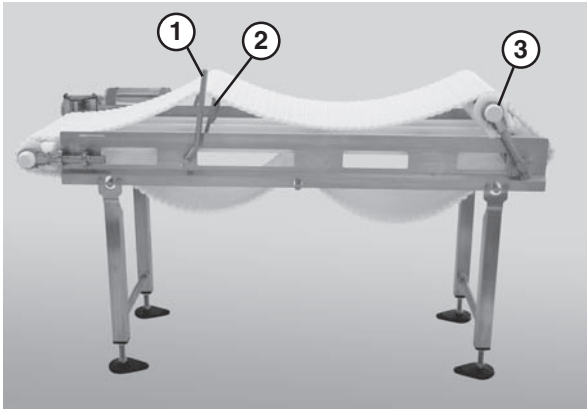

Figure 53
2. Use the lifter handle (Figure 53, item 1) to raise the lifters (Figure 53, item 2) and raise the tip up tail (Figure 53, item 3).